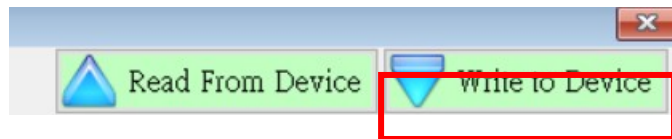
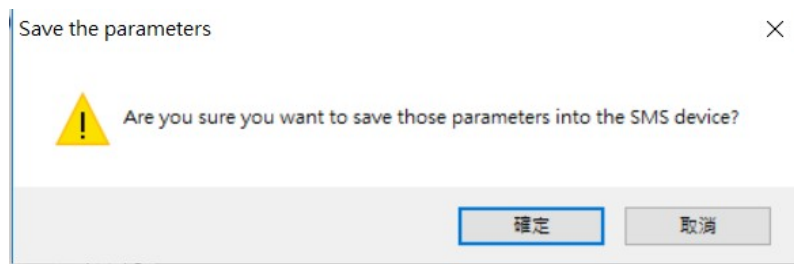
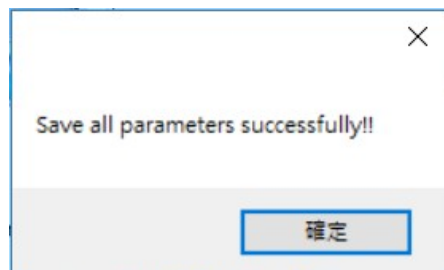

Figure 6.10.31
Figure 6.10.32
Figure 6.10.33
- L. After finishing the selection, click “Write to Device”. As shown in Figure 6.10.31, write the settings to GTP-541M. At this time, the confirmation window will pop up and click OK. As shown in Figure 6.10.32, the parameters will be written. After the data is completed, the success window will pop up as shown in Figure 6.10.33